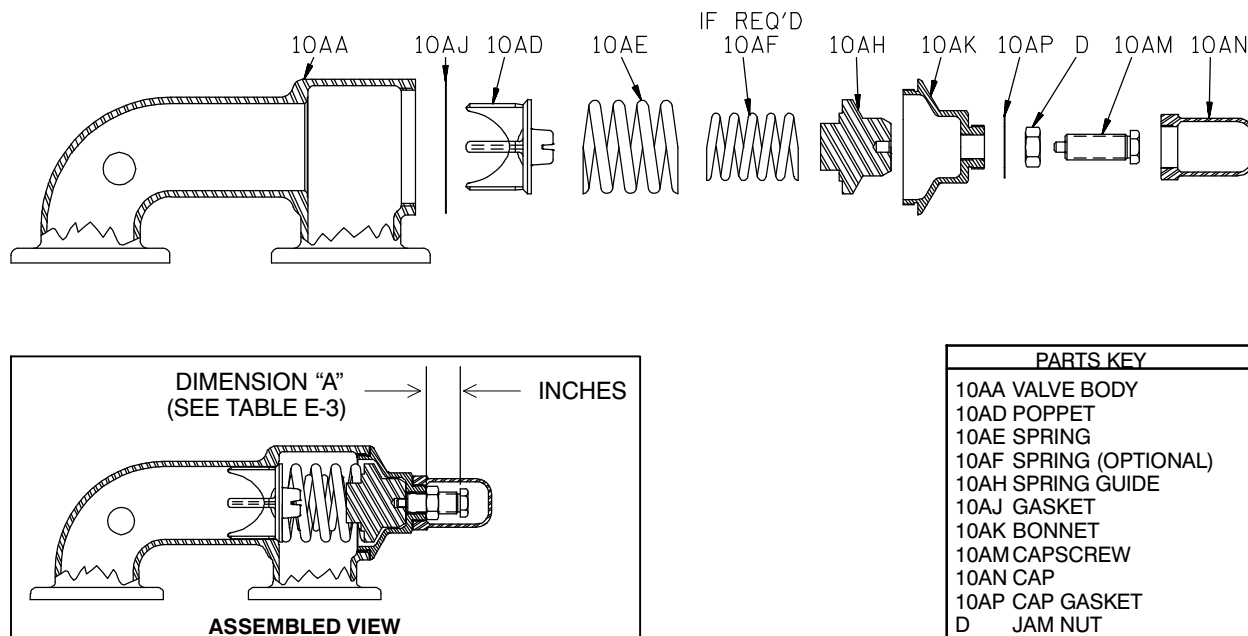

Figure E-7. T Hydraulic Size Pressure Relief Valve Assembly
(Figure E-7)
Install the jam nut (D) on the adjustment capscrew (10AM) and thread the capscrew into the bonnet. Refer to the separate Parts List accompanying your pump and determine the spring option code (STD, 25D, etc.) for your pump. See Table E-3 and adjust the capscrew (10AM) to the desired height ("A", Figure E-7) for the desired cracking pressure. Secure the adjustment screw with the jam nut (D).